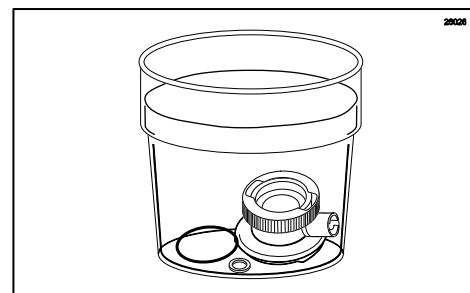

Figure 92
4. Place the Injector Head and the new replacement o-rings in an approved sanitizer solution and soak for at least 1 minute. (See Figure 92.)